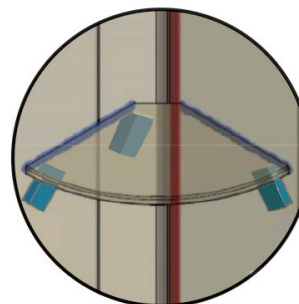

FIG 29.
- Carefully place shelf on stabiliser blocks and gently push into corner. Check the level and add additional blocks to top of shelf to hold in place while adhesive cures. (**FIG 29**).